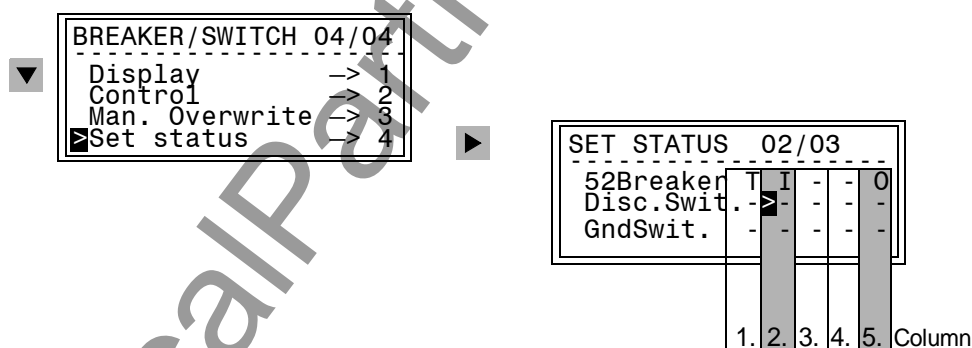

Figure 7-52 Set Status at the Front Panel (example)
Select the item **Set Status** with the **▼** key and switch to the next option using the **►** key. **SET STATUS** appears, as shown in Figure 7-52.
The example in Figure 7-52 shows the position for the circuit breaker (52) was tagged (**T**) after the input ignore (**I**) was set, which means the message input was de-coupled from the system. The output block is active (**O**), so the command output is also de-coupled from the system. For the disconnect switch and the ground switch, no limitations are set.